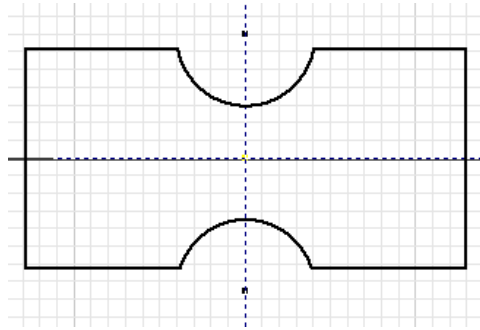

Figure 18-29 Sketch after adding the constraints
- Create the sketch and add required constraints to it, refer to Figure 18-29.
- Draw the sketch for the model by using the sketching tools. Add the required constraints to it. The sketch after adding the constraints is shown in Figure 18-29.